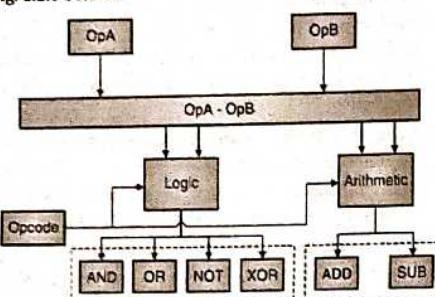

Fig. 1.2.6 : Block diagram of Generic ALU
- An ALU comprises of various blocks as shown in the Fig. 1.2.6 below :
- Now in the Fig. 1.2.6, to give an instruction to the system (ALU), the programmer has to give OPCODE and OPERAND i.e. the operation to be performed is to be given on the select lines while the data to be operated on is to be given on input operand lines.